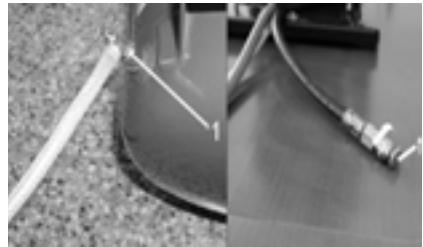
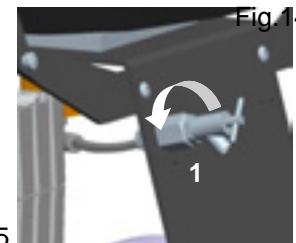

Fig.14
Fig.15
##### Compressors (Fig.14, Fig.15)
If the compressor will not be used for a prolonged time period, drain any condensate from the air tank. Then turn on the compressor for 10 minutes, keeping the drain valve open (1) (Fig.14, Fig.15). Switch off the compressor by switch (3) at pressure switch (2) (Fig.13), close the drain valve and disconnect the appliance from the mains.
- Release air pressure in the pressure tank by opening the drain valve (1) (Fig.14, Fig.15).